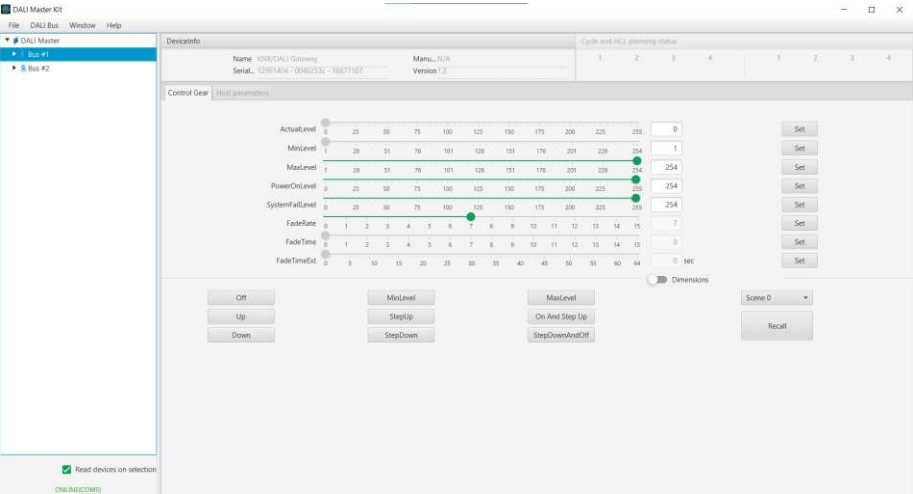

Figure 1
2.1. Once the “DALI Master” PC software is running, the 2 channels DALI will be discovered and shown on the left as shown in Figure 1.